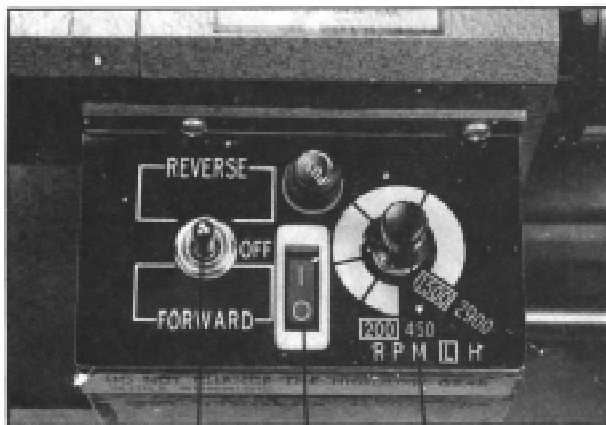

Fig. 4
5. Make sure the Switch (#1 in figure 4 below) is at the 'O' position. Adjust the speed control knob (#4) by turning to the lowest speed position and plug in the electrical cord.